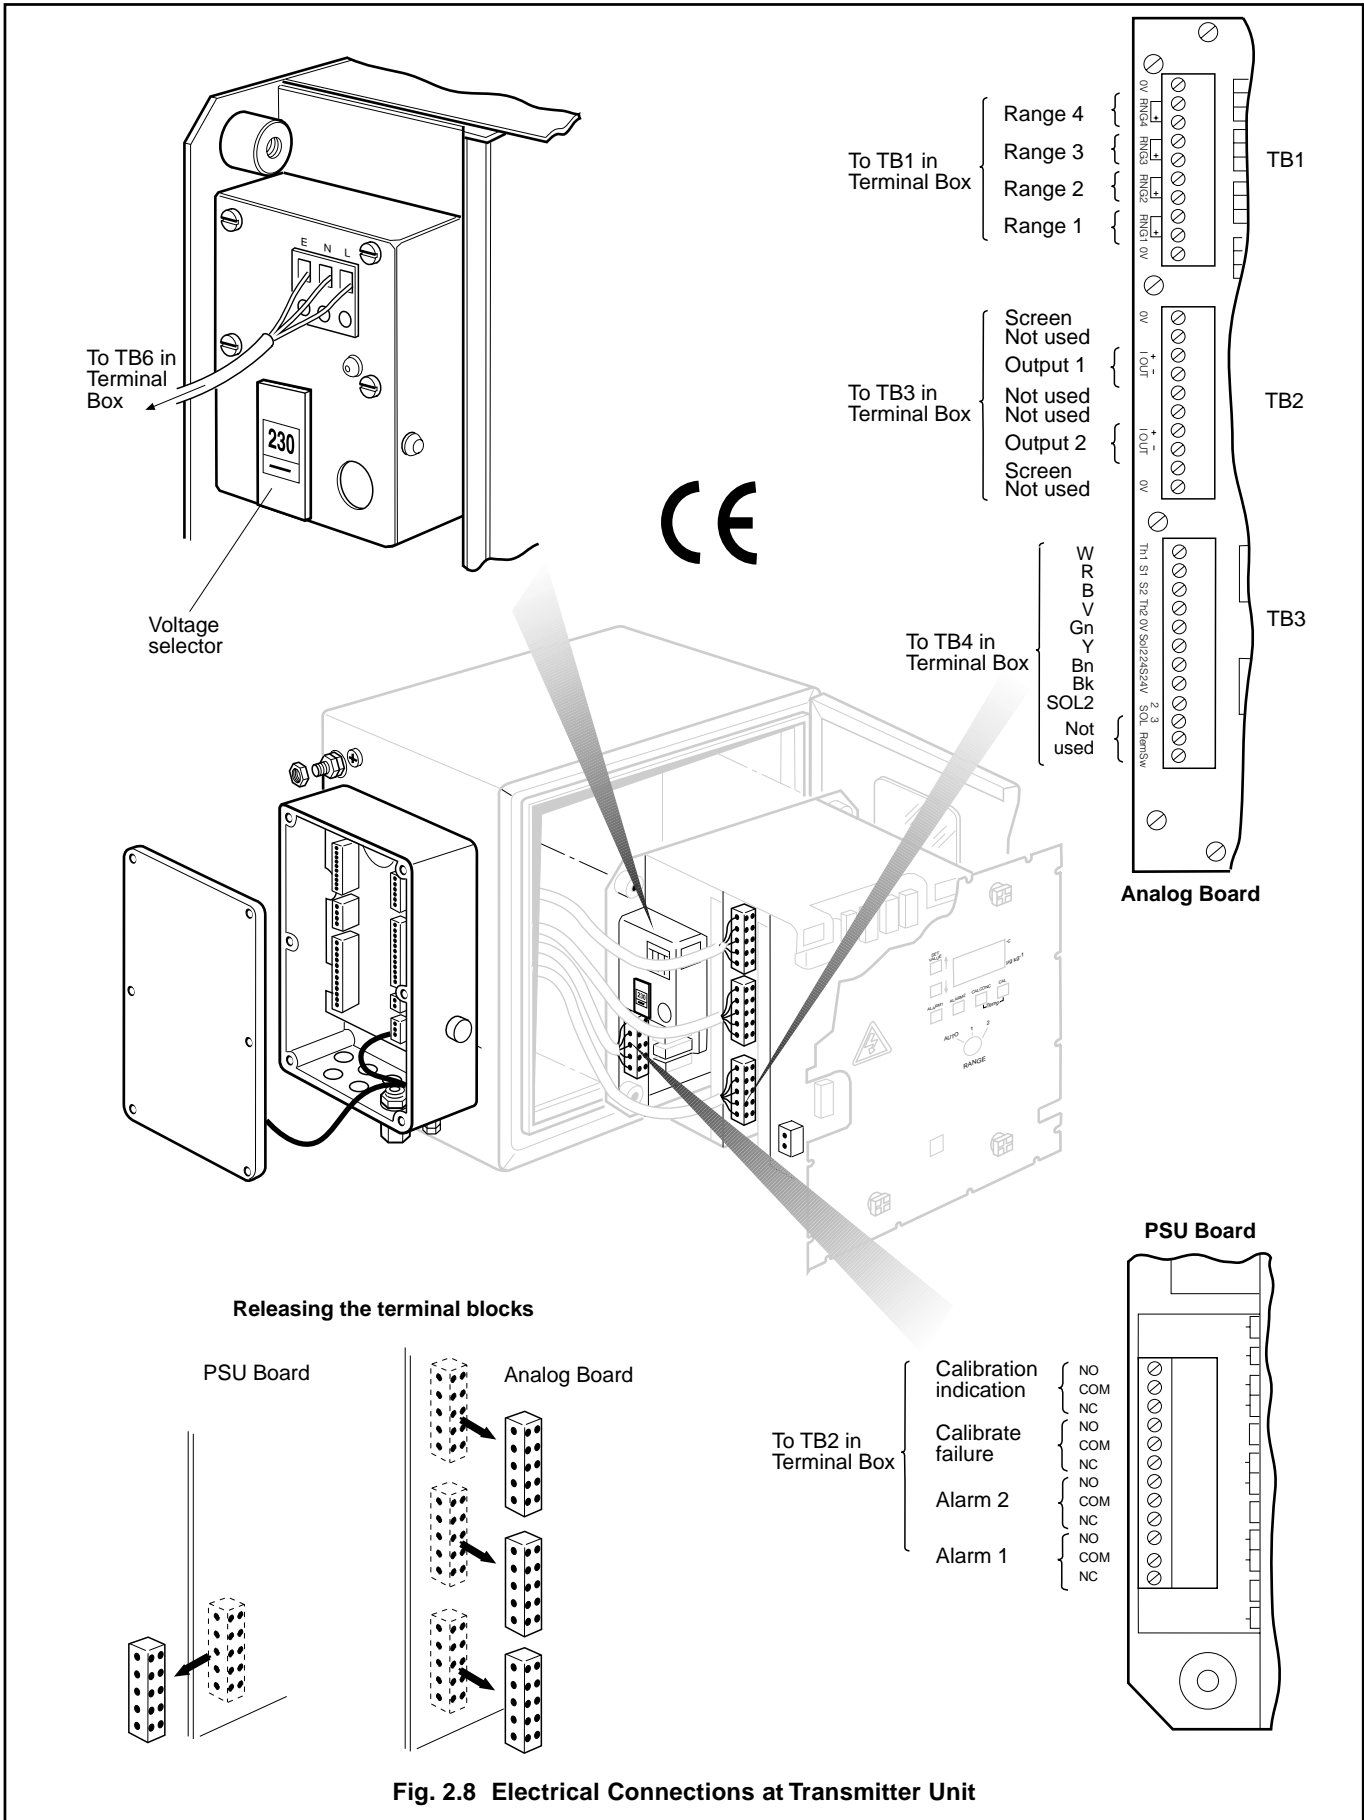

Fig. 2.8 Electrical Connections at Transmitter Unit
- f) After recording the position of the connection blocks on the circuit boards – see Fig. 2.8, remove the connection blocks from the analog board by applying force outwards from the face of the analog board. To remove the connector from the PSU board, slide the connector sideways towards the vertical edge of the board.
- g) Loosen the associated screws to release the three wires from the mains input connector on the PSU Board – see Fig. 2.8.
A voltage selector is located on the chassis and this must be set to the correct value before connecting the instrument to the supply – see Section 2.1.2 and Fig. 2.8.